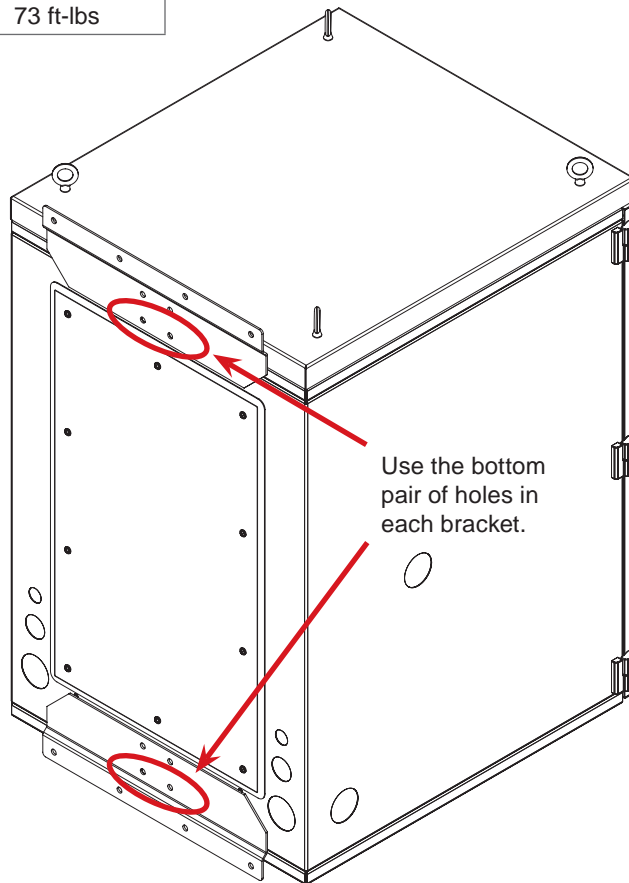

Figure 3 — Preparing Enclosure for Wall Mounting
1. Align the bottom holes in each bracket to the thread holes in the back of the enclosure (Figure 3).